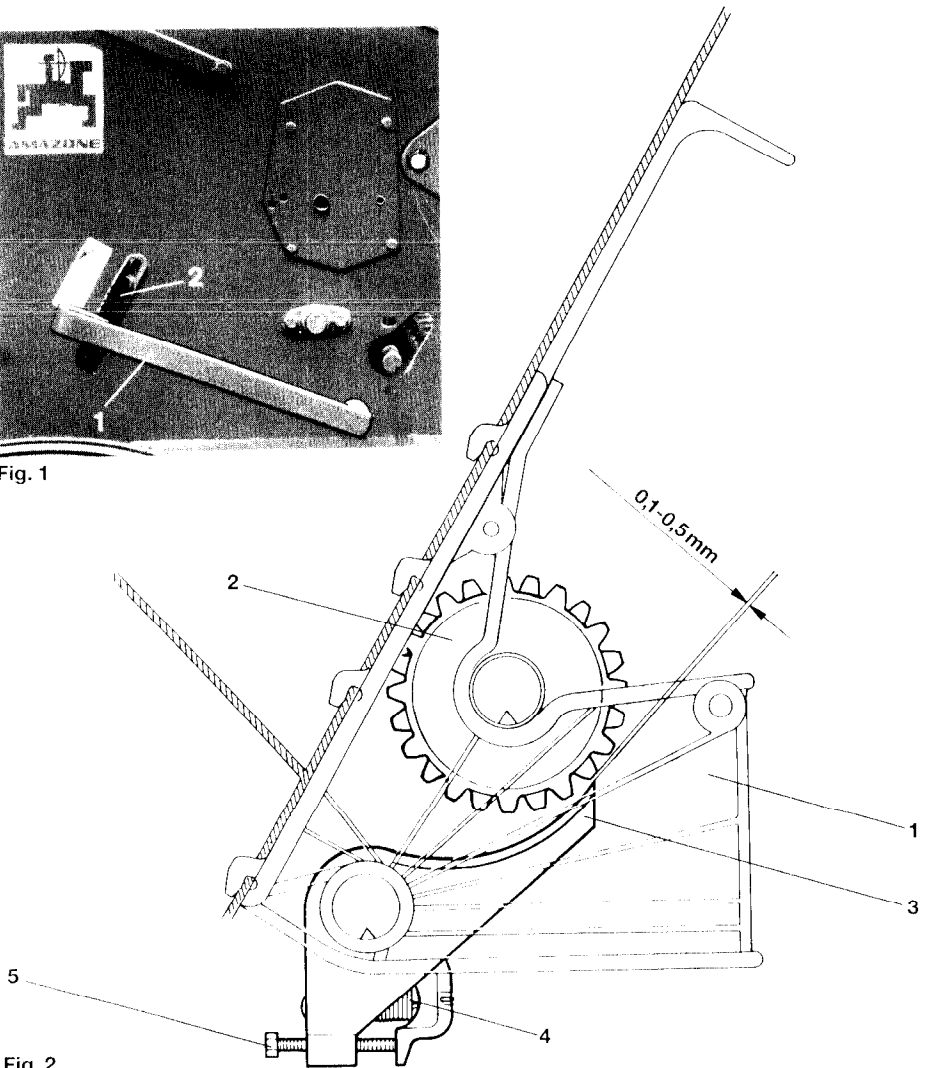

Fig. 2
- Check, whether the prescribed gap of 0.1 mm to 0.5 mm (see Fig. 2) between bottom flap (Fig. 2/3) and metering wheel (fig. 2/2) in every metering wheel housing (Fig. 2/1) is maintained. To do this the metering wheel to be checked should be turned by hand on the metering shaft.
- If found necessary reset the prescribed gap at the spring tensioning screw (Fig. 2/5).